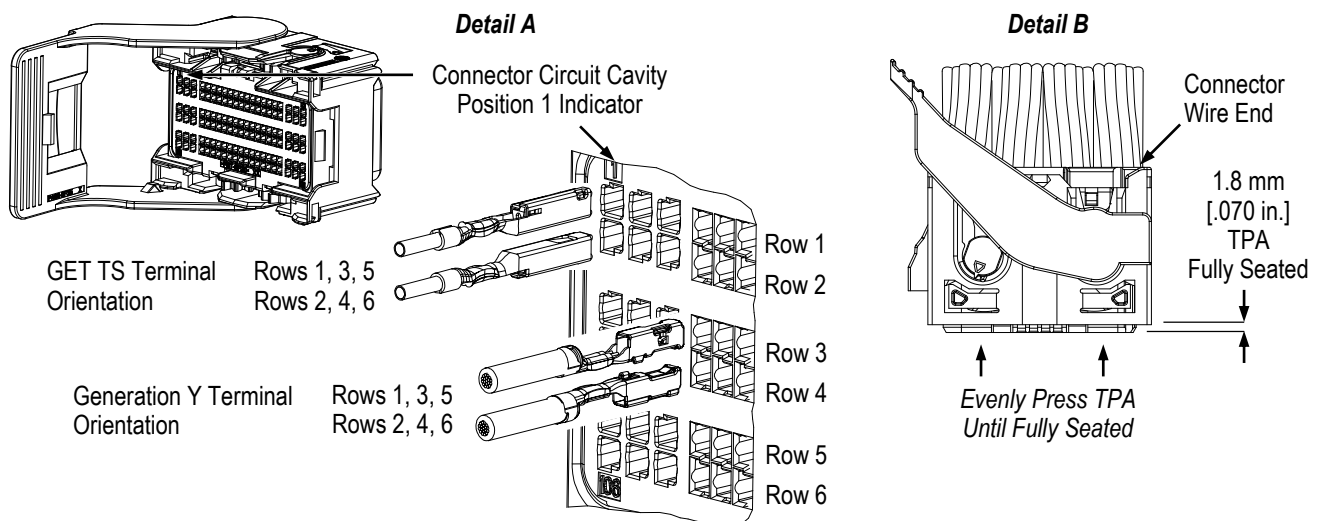

Figure 3
3. Grasp the terminal approximately 20 mm [.78 in.] behind the wire barrel, and align the terminal with the desired circuit cavity of the connector. Refer to Figure 3, Detail A for orientation of each terminal.
- After all terminals are inserted, hold the connector at the wire end, and evenly press the TPA into the housing to the dimension given in Figure 3, Detail B. There will be an audible click when the TPA is fully seated.